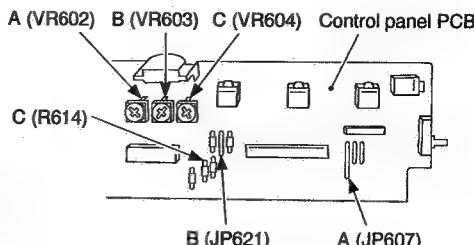

Figure 3-42A (PC320/325/FC230)
- In the case of the PC320/325/FC230, adjust VR602 (A between terminals of VR602 and JP607) and VR603 (B between terminals of VR603 and JP621); see Figure 3-42A.